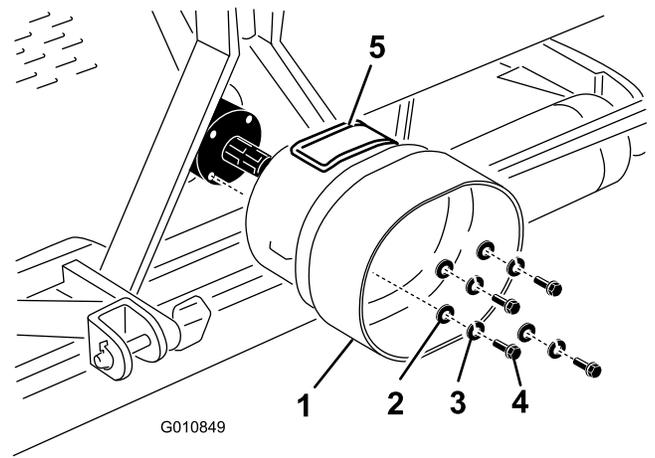

Figure 19
1. Remove the 4 bolts, lock washers and flat washers secured to the rear of the aerator gear box (Figure 19).
2. Mount the PTO shield to the aerator gear box with the fasteners previously removed (Figure 19). When mounting the PTO shield, make sure the access panel (Figure 19) is positioned to the top or side depending on the aerator frame configuration.
Note: The access panel (Figure 19) can be opened to ease the removal and installation of the PTO shaft mounting fasteners.